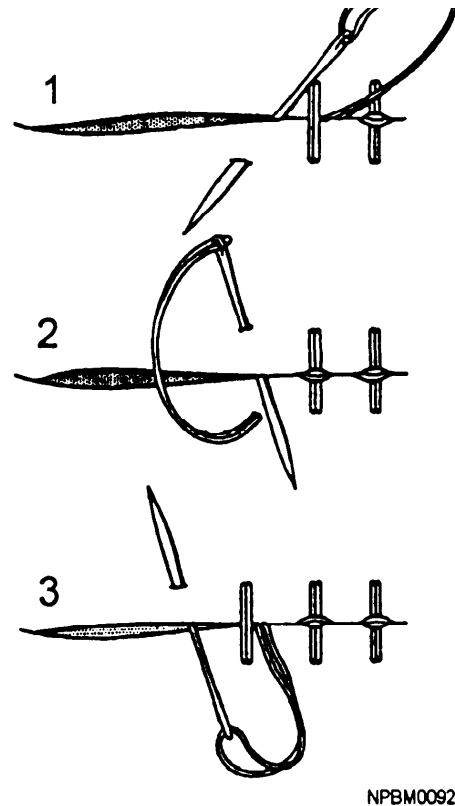

Figure 3-16.—Herringbone stitch.
- **Herringbone stitch.** The herringbone stitch is used to mend tears in heavy or painted canvas. Figure 3-16 shows the steps in making this stitch. As you can see from the picture, the herringbone stitch is very strong if applied correctly, as each stitch locks itself as it begins the next.